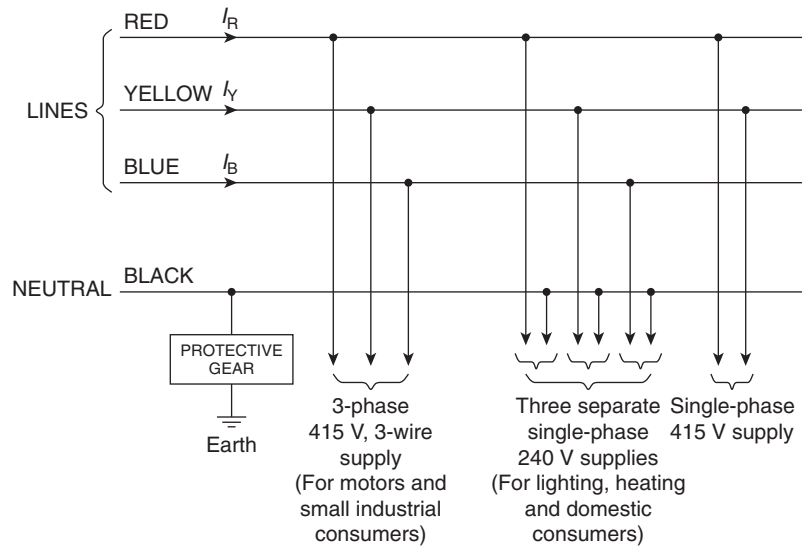

Figure 20.5
are fed by means of a single-phase a.c. supply. Two wires are used, one called the live conductor (usually coloured red) and the other is called the neutral conductor (usually coloured black). The neutral is usually connected via protective gear to earth, the earth wire being coloured green. The standard voltage for a single-phase a.c. supply is 240 V. The majority of single-phase supplies are obtained by connection to a three-phase supply (see Fig. 20.5, page 319).
- (vii) The star connection of the three phases of a supply, together with a neutral conductor, allows the use of two voltages – the phase voltage and the line voltage. A 4-wire system is also used when the load is not balanced. The standard electricity supply to consumers in Great Britain is 415/240 V, 50 Hz, 3-phase, 4-wire alternating current, and a diagram of connections is shown in Fig. 20.5.